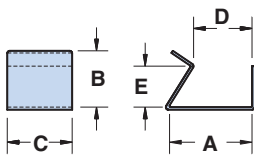

Figure 1
- Figures 1 and 2 are metal clips, made from 0.5mm (.020") high carbon steel with a zinc electroplate finish.